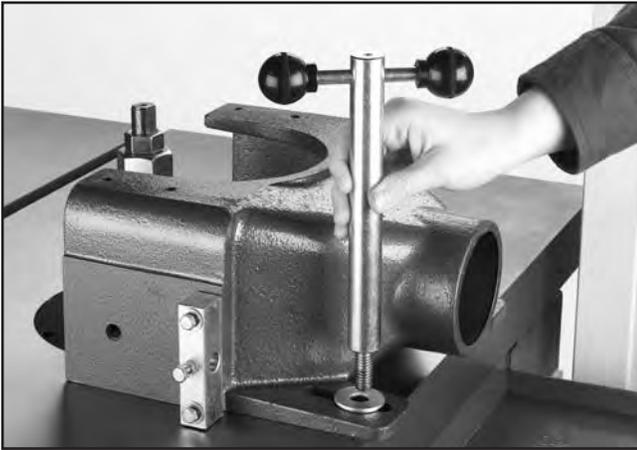

Figure 13. Inserting shaft guide into guard.
2. Insert the shaft guide with a washer into the guard as shown in **Figure 13**, and thread the shaft guide clockwise to secure the guard to the table.